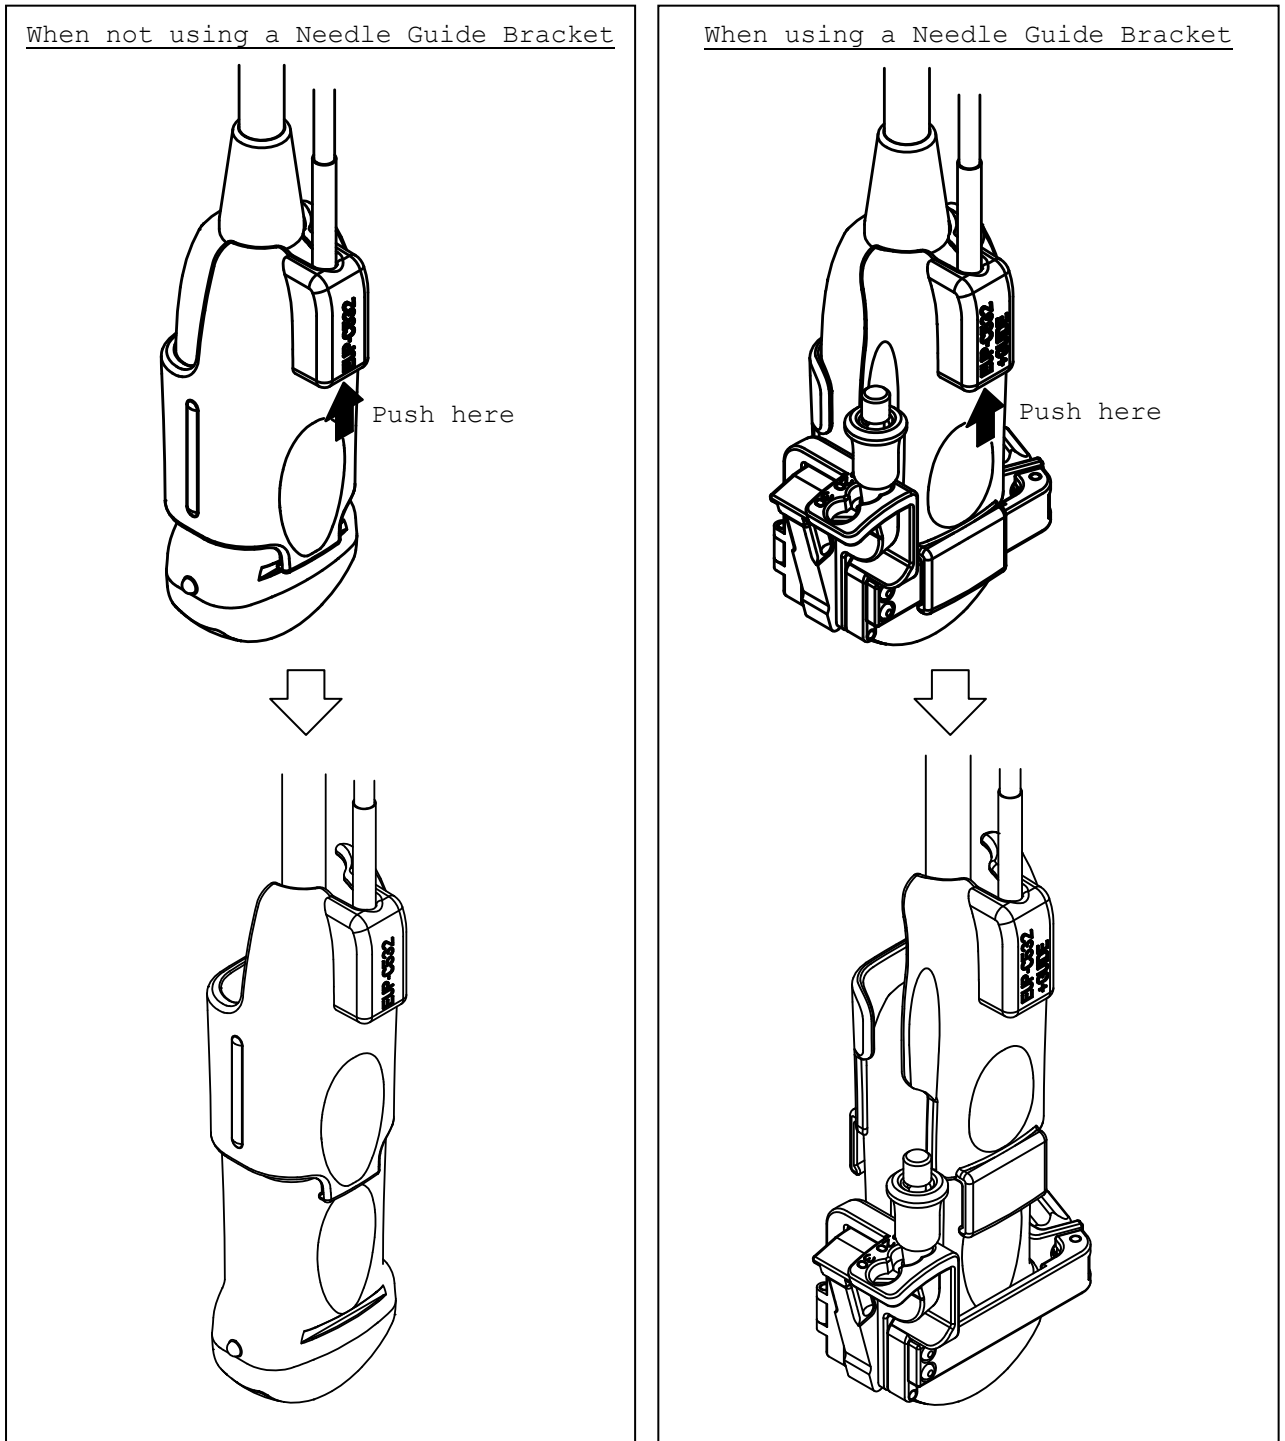

Fig. 6 How to release the Magnetic sensor attachment
- a) Push the magnetic sensor attachment and release it from the probe as shown in Fig. 6.